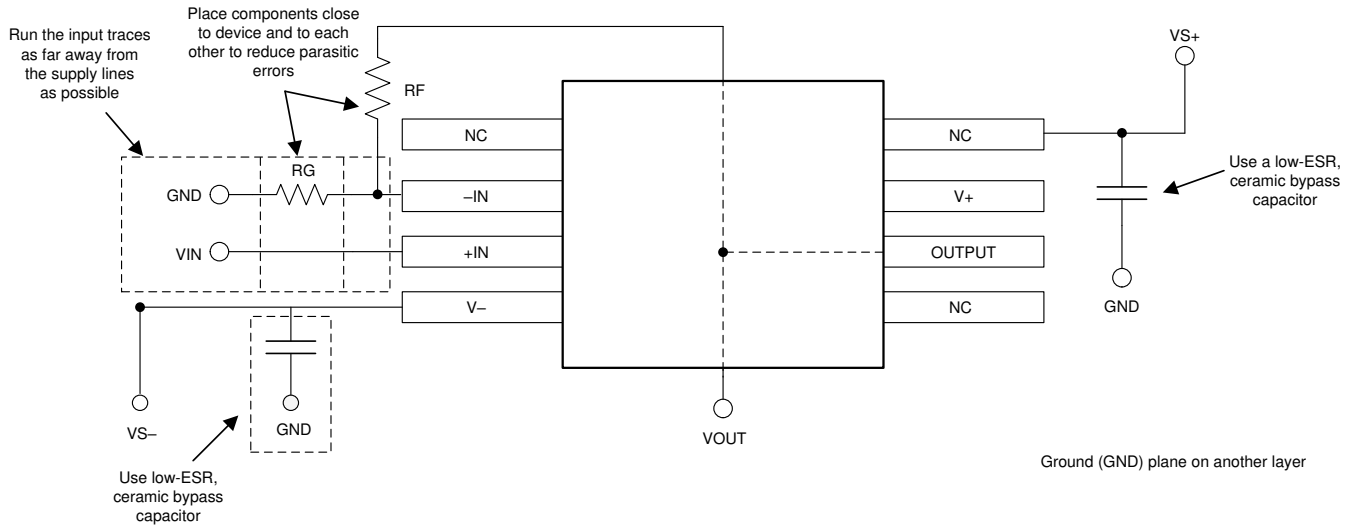

Figure 8-4. Operational Amplifier Board Layout for Noninverting Configuration
- Place the external components as close to the device as possible. As shown in Figure 8-4, keeping RF and RG close to the inverting input minimizes parasitic capacitance.